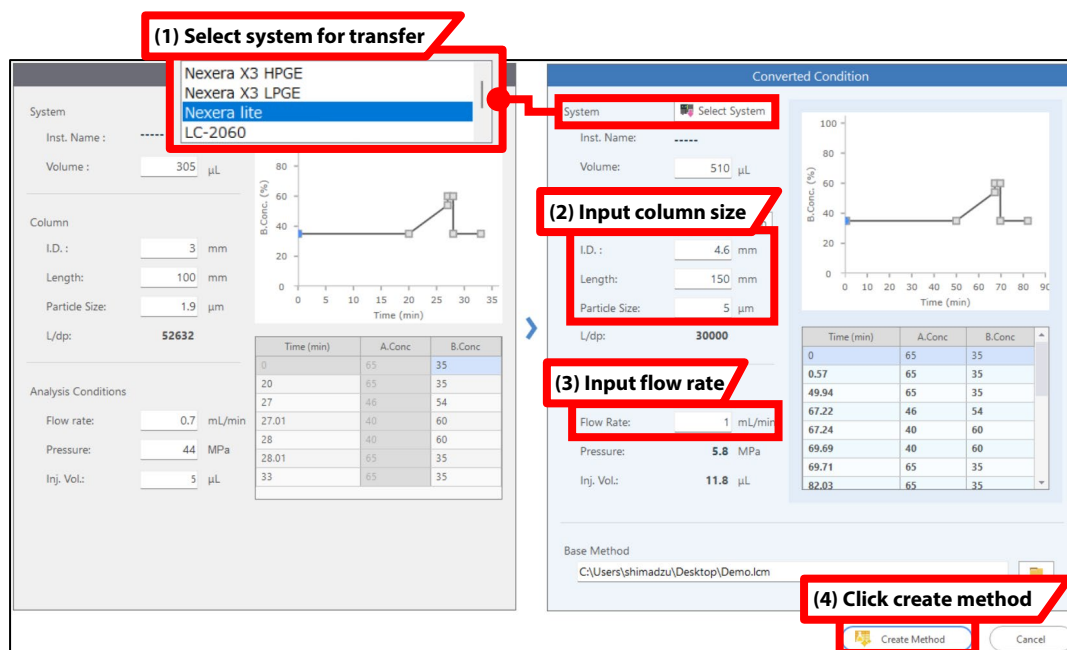

Fig. 6 Automatic Calculation of Parameters for Method Transfer by LabSolutions MD
Transferring analytical methods between systems with differing system volumes or column dimensions while maintaining consistent separation patterns necessitates appropriate adjustment of several LC parameters. Manual adjustment can be labor-intensive and prone to input errors during parameter calculation and system entry. LabSolutions MD addresses these challenges by automatically calculating the necessary LC parameters for method transfer and generating the corresponding method files, as illustrated in steps (1) to (4) of Fig. 6. For instance, a method optimized through automatic gradient optimization using Nexera X3 system with a 100 mm × 3.0 mm I.D., 1.9 μm column was successfully transferred to conventional HPLC conditions on Nexera lite system equipped with a 150 mm × 4.6 mm I.D., 5 μm column, as depicted in Fig. 6 (analytical conditions detailed in Table 2). By selecting the target system for method transfer (Fig. 6(1)), entering the column dimensions (Fig. 6(2)), and specifying the flow rate (Fig. 6(3)), LabSolutions MD automatically adjusts the parameters required for method transfer.